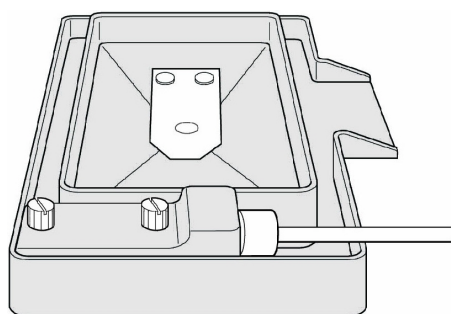

Figure 2-6: Cell Reservoir
- The Cell Reservoir (Figure 2-6) installs in Position 4 (Source 3) in the 5-position stage. See Five-Position Stage on page 24.